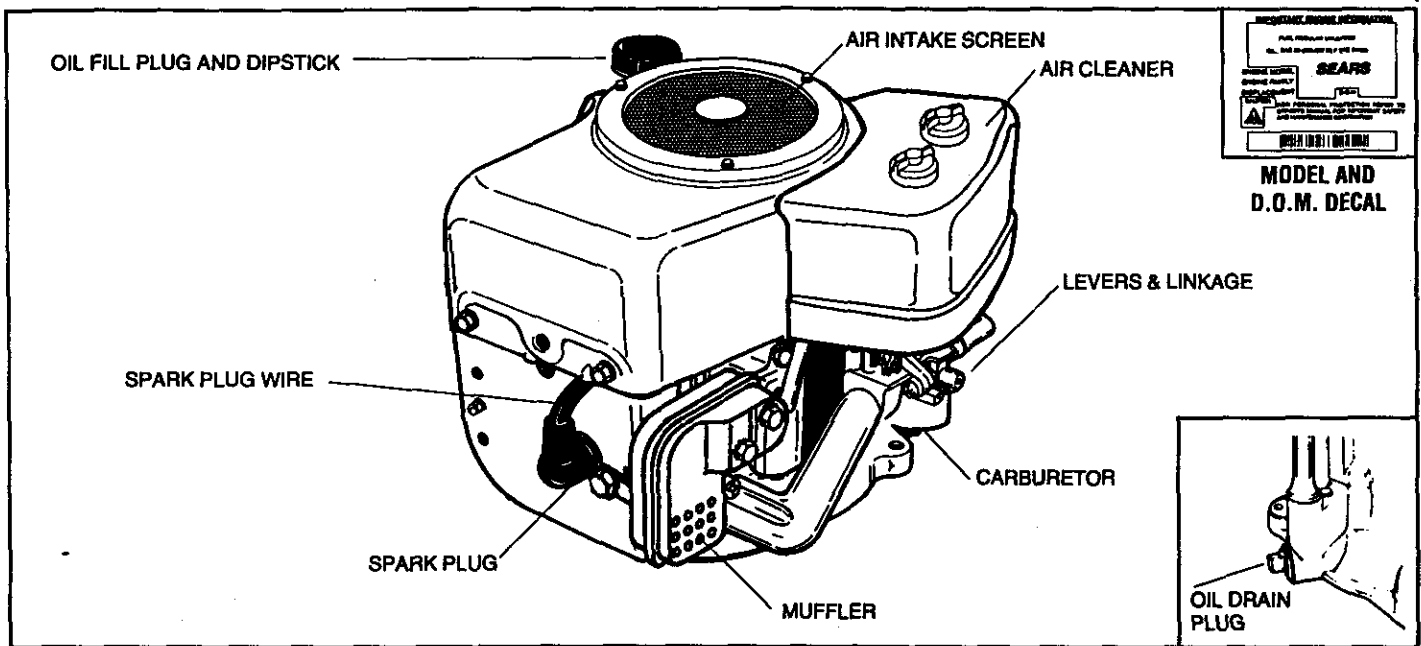

Figure 1
- Clean area around oil fill plug (see Figure 1).
**④ CHECK THE FOLLOWING:**
B. Be sure spark plug wire is attached to spark plug (see Figure 1).
**BE SURE AIR INTAKE SCREEN (see Fig. 1) IS SECURELY IN PLACE TO AVOID CONTACT WITH MOVING PARTS.**